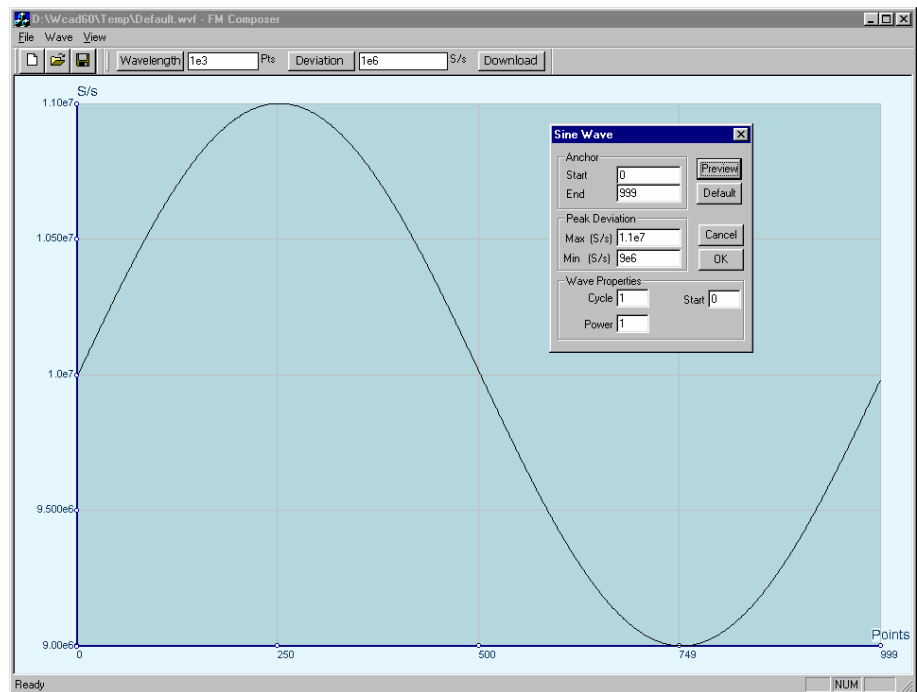

Figure 3-22. Using ArbExplorer to Generate Arbitrary Modulating Waveforms
9. Refer to Figure 3-22 and modify the Wavelength field to have 10,000 points. After you modify the field, press the Wavelength button. The number of points is derived from the following relationship: